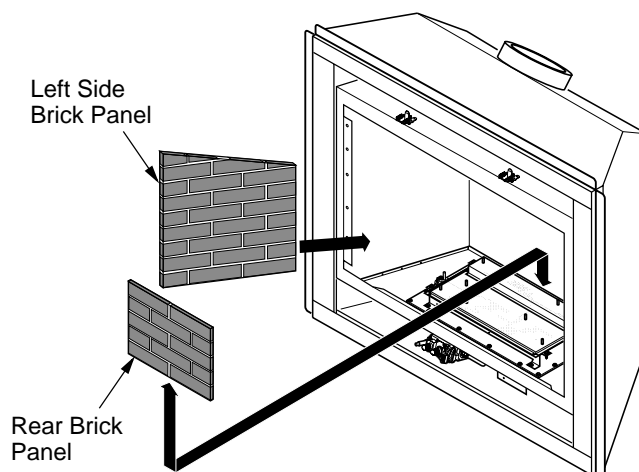

Figure 43 - Installing Rear Brick Panel
5. Install rear brick panel first. Rest bottom edge of panel on back edge of burner assembly (see Figure 43).
6. Install left side brick panel by sliding it between the burner assembly and the side of the firebox (see Figure 43).